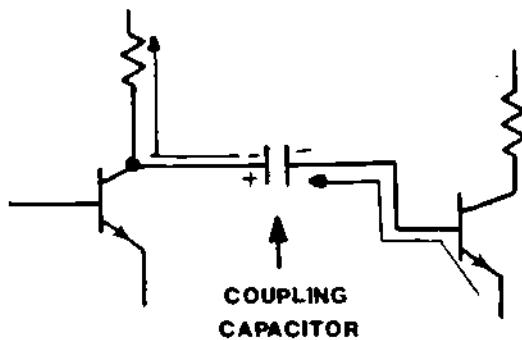

Figure 13
(15) Often in electronics it is desirable to separate the voltage in one electrical circuit from another, yet couple the signal between the circuits. Although the coupling capacitor in an RC coupled amplifier does block DC between amplifier stages, the voltage isolation is not complete. Figure 13 shows a circuit diagram of a typical coupling capacitor between two amplifiers, and the charging current through the capacitor which prevents total isolation.